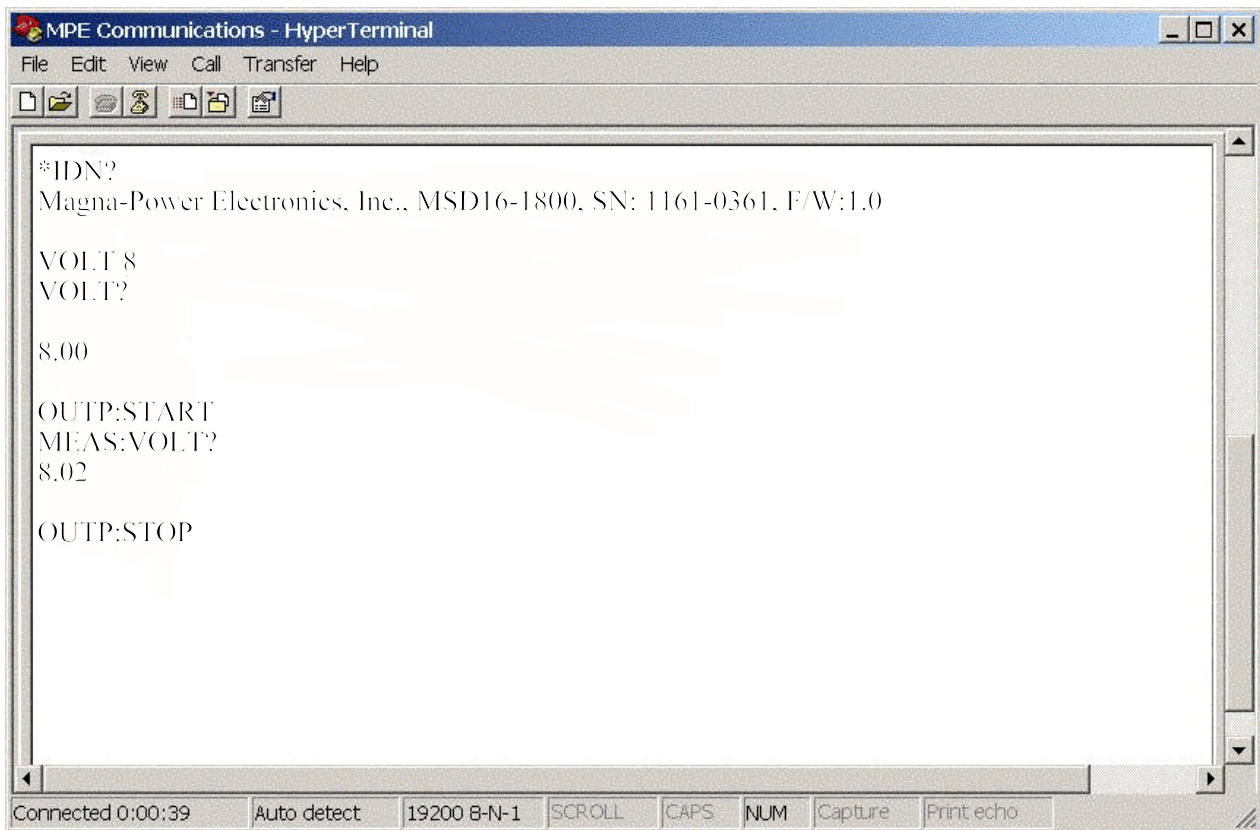

Figure 4.1 RS232 Communications using Microsoft Windows (tm) HyperTerminal
7. As illustrated in figure 4.1, the returned data will display the following: